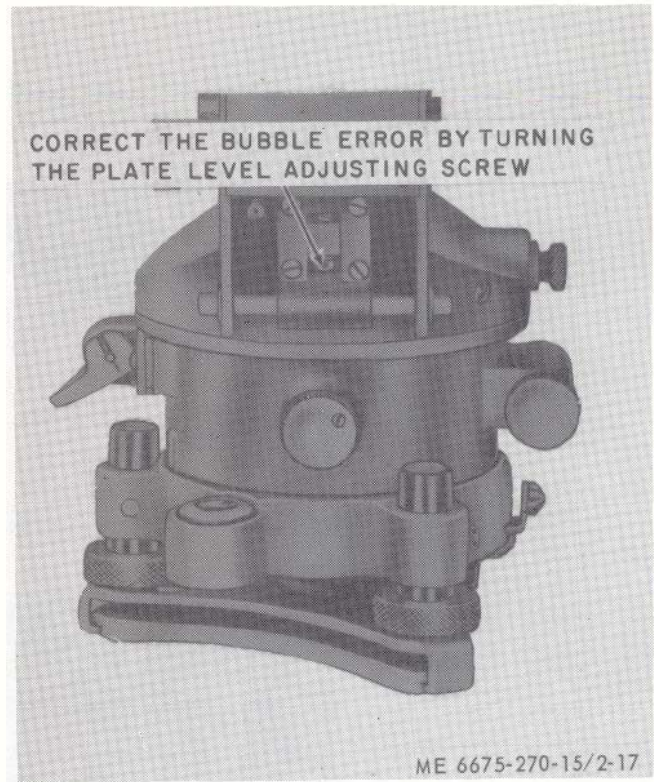
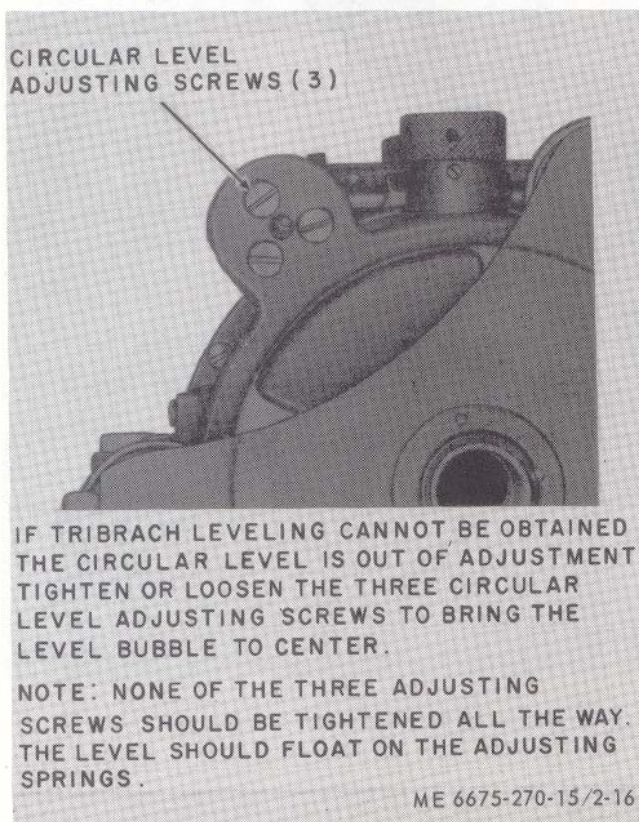

Figure 2-17. Plate level adjustment.
Figure 2-16. Circular level adjustments.
a. *Circular Level.* Refer to figure 2-16 and adjust the circular level.
(1) Level the theodolite (para 2-10).
(2) Refer to figure 2-17 and adjust the plate level.